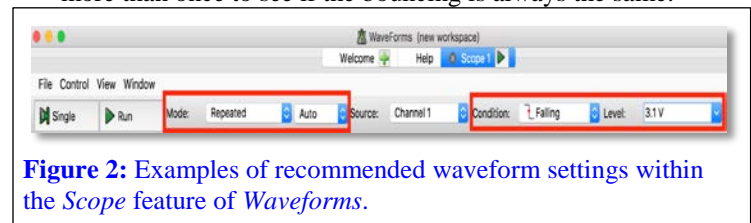

Figure 2: Examples of recommended waveform settings within the *Scope* feature of *WaveForms*.
- Measure the bouncing of one of your DIP switches and of one of your tactile switches with the DAD/NAD's *Scope* feature in *WaveForms*. It is **NECESSARY AND REQUIRED** that you measure the bouncing upon both opening and closing each type of switch. Therefore **you should** set both falling-edge and rising-edge triggers for each switch. **It is recommended that you use the Normal setting within the Repeated mode of your Scope program.** Make sure that you are using the appropriate time base for your waveform. It is also recommended that you set a voltage level trigger to detect both edge types (something within the 0 to 3.3 V range of the switch). See Figure 2 for more details. Submit screenshots in your lab document for **each** switch type that show the bouncing upon opening, and upon closing, the switch. In order to get enough resolution to see the bouncing, it is preferable to have **two** separate screenshots, one for when a switch is closing and another for when it is opening. Record the amount of bounces for both opening and closing each switch, and then determine a reasonable amount of time that could be used to debounce your switches (i.e., this debounce time must be greater than both the time of bouncing for both a falling AND a rising edge). Try to record the bouncing more than once to see if the bouncing is always the same.